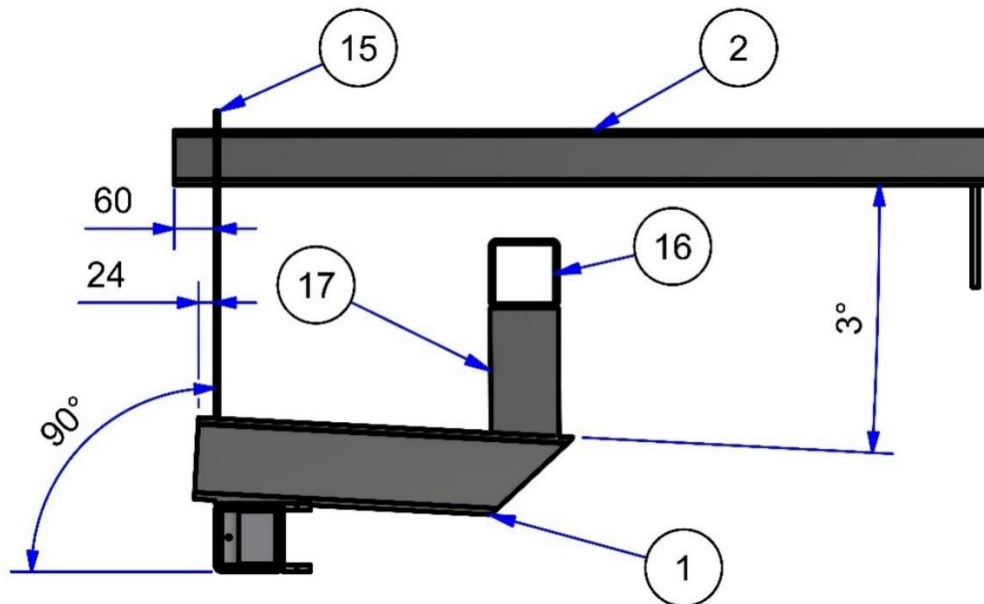

Figure 9 (Box Section Supports with Angles)
1. Cut one 100 x 100 box section cross member (Item 16) to suit inside chassis width, then weld in position as illustrated Figure 9 and 10
2. Cut two 100 x 100 box section uprights (Item 17) to suit then weld in position as illustrated Figure 9 and 10